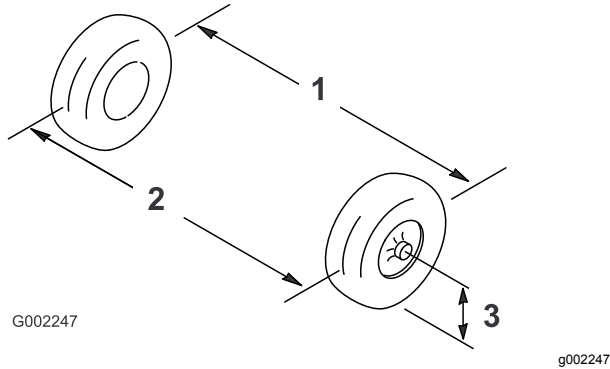

Figure 51
2. Measure the distance between both of the front tires at the axle height at both the front and rear of the front tires (Figure 51).